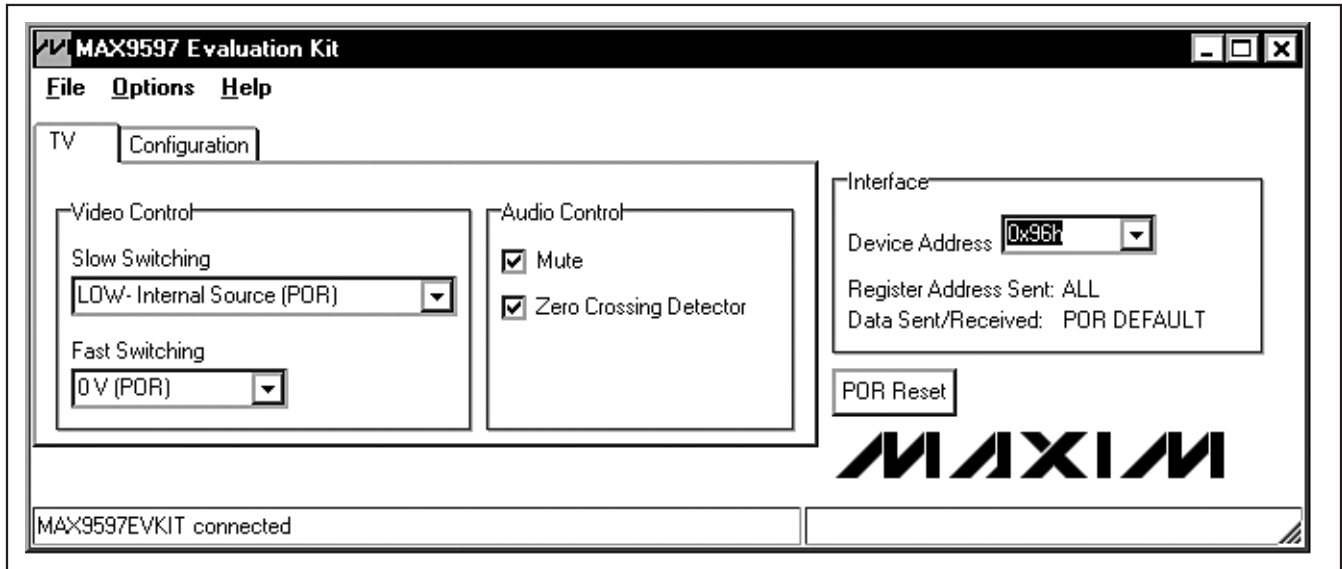

Figure 1. MAX9597 EV Kit Software Main Window (TV Tab)
- 16) Start the EV kit software by opening its icon in the **Start | Programs** menu. The EV kit software main window appears, as shown in Figure 1. Observe as the program automatically detects the address of the MAX9597 and starts the main program.
The user interface (Figure 1) is easy to operate. Use the mouse, or press the tab key to navigate with the arrow keys. Each of the buttons correspond to bits in the command and configuration bytes. By pressing them, the correct I²C-compatible write operation is generated to update the internal registers of the MAX9597. The **Interface** group box indicates the current I²C-compatible **Device Address**, **Register Address Sent**, and the **Data Sent/Received**, for the last read/write operation. This data is used to confirm proper device operation.
The **Video Control** group box of the MAX9597 EV kit software (Figure 1) allows the user to select functions, such as **Slow Switching** and **Fast Switching**, by manipulating the drop-down lists (refer to the MAX9597 IC data sheet for a description of each of these functions).